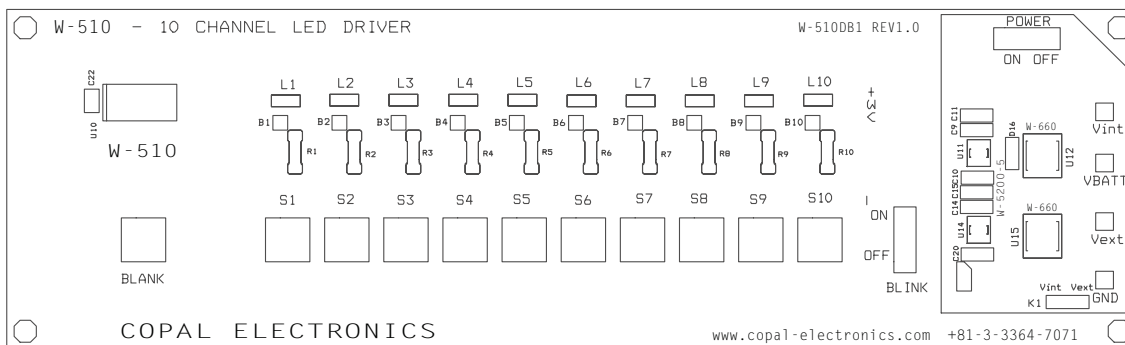

Figure 9. W-510DB1 Component Placement – Top Side
- Figure 9. W-510DB1 Component Placement – Top Side